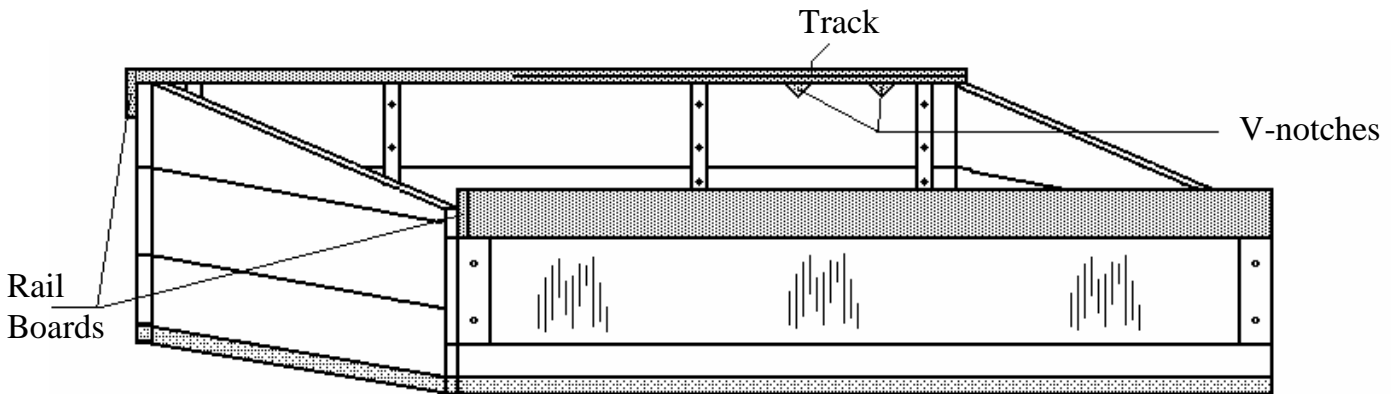

Fig. 2
- ◆ Working on one corner at a time, bring two panels together and gently tap the carriage bolts through the pre-drilled holes until they are completely seated into the wood and protruding inside the Cold Frame. Put on washers & nuts and tighten until snug, don't over tighten. Repeat until all four panels are assembled at the corners and bolted (See Fig. 2).